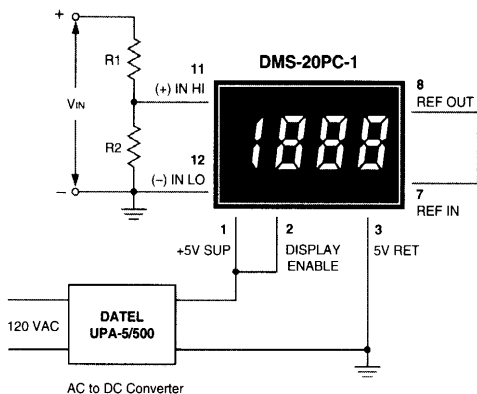

Figure 4. Input Attenuation Circuit
**3. Engineering Scaling:** For measuring voltages greater than the full scale input range of a given meter, the input signal must be attenuated. A simple voltage divider (similar to that shown in Figure 4) will scale the input to within the range of the selected meter. R1 and R2 should be precision, ±1%, metal-film resistors with absolute TCR's less than 50ppm/°C.